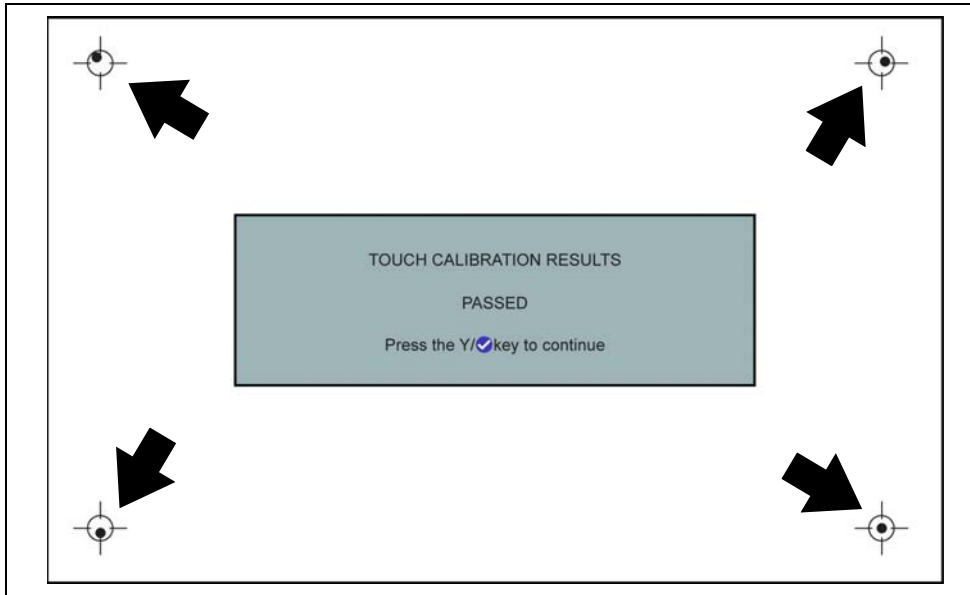

Figure 10-8 Touch screen calibration - Passed
- If the calibration is successful, the “Touch Calibration Results - Passed” screen is displayed (Figure 10-8). Press the **Y** button to complete the process and return to the Display menu.
- The results screen (Figure 10-8) shows the entered calibration of each indicator. Ideal calibration would be to select each indicator exactly in the center, however selection inside the displayed circle is acceptable. If selecting the center is difficult using your finger, use a touch screen stylus (not included).